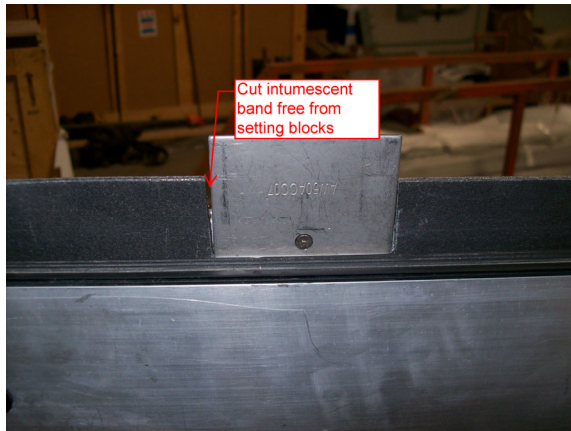

Figure 15
- Make sure intumescent band does **not** cover the stainless steel setting block platforms. If needed, cut the band. See Figure 15.